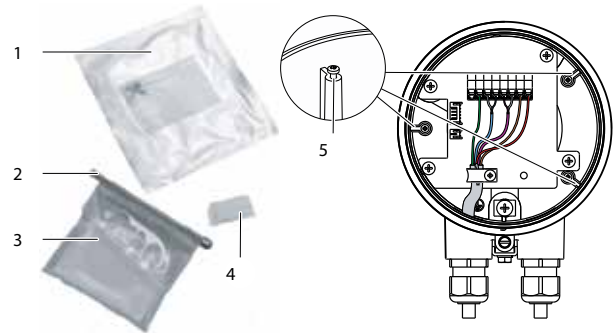

Figure 29 Procedure
- Do not overfill the terminal box. Keep the potting compound away from the O-ring and the gasket / groove (see Fig. 29).